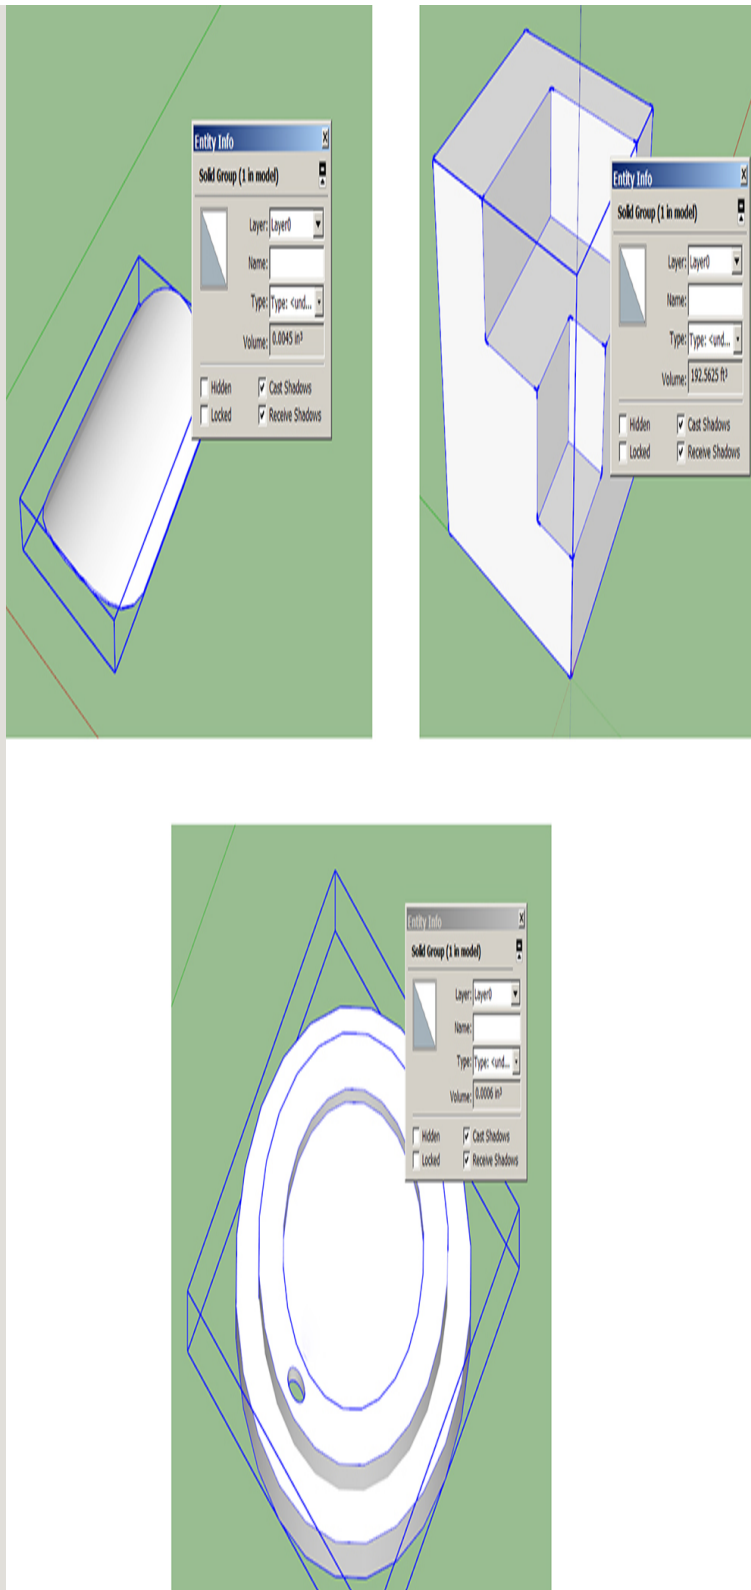

Figure 5-7 The fingernail, icon, and mug lid are all solid groups.
- **Be one solid piece with no surface intersections.** Grouping parts together isn't enough; they must be permanently welded in the type of operation that SketchUp's solid tools perform. In Chapter 4 we learned how to tell if a group or component is solid by clicking on its Entity Info box. If it identifies it as a Solid Group or Solid Component, that part is solid (Figure 5-7). If it only says Group or Component, it's not.